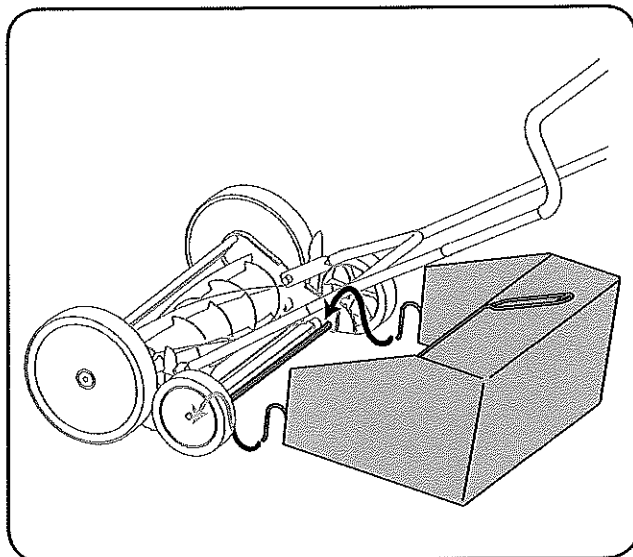

Figure 3-5
2. Position the grass catcher hooks over the rod on the rear of the mower. See Fig. 3-5.